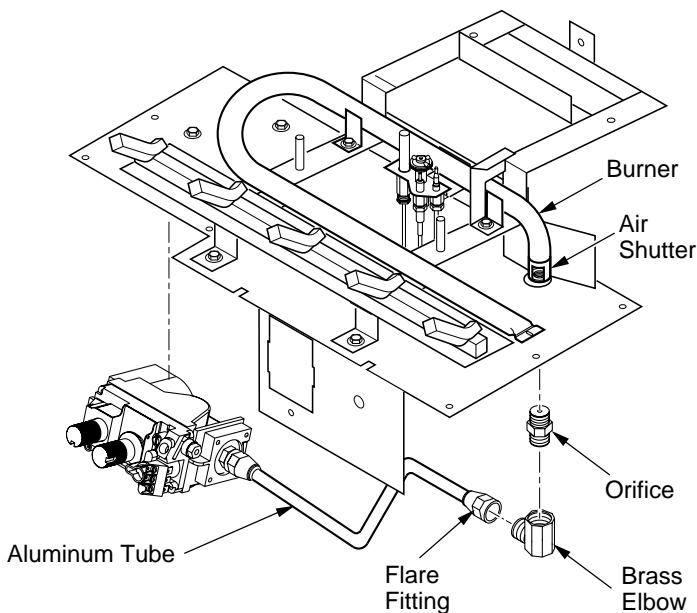

Figure 3 - Removing Orifice for Conversion (Valve Shown Removed from Base for Clarity)
1. Inside the control compartment under the firebox floor, locate the aluminum tube with flare fitting and elbow fitting on the right side. Loosen flare fitting and disconnect aluminum tube from elbow fitting. Use a 3/4" open end wrench (see Figure 3).
7. Locate air shutter at end of burner tube where burner tube meets firebox bottom (see Figure 3). Loosen screw and adjust air shutter to 3/16" open position.